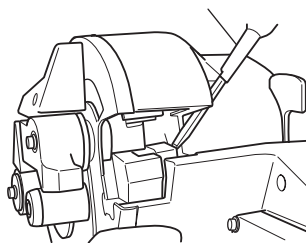

Fig. 11
- Removal of the lower cutter can be easily made if the lower cutter is wrenched with a Phillips head screwdriver as shown in the following diagram. (Fig. 11)